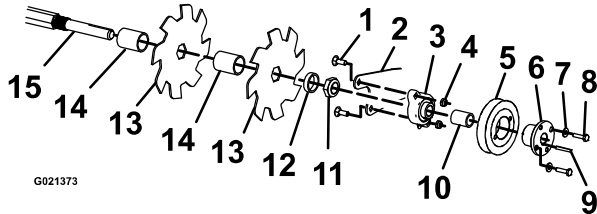

Figure 26
9. Remove the 4 carriage bolts and locknuts securing the cutting blade assembly (Figure 26), and remove it from the fork mounting bracket.
10. Remove the 2 bolts and washers attaching the pulley to the bearing. Loosen the setscrews on the bearing, and slide the key off the shaft (Figure 26). Remove the bearing and pulley by removing the bearing fasteners from the fork mounting bracket.